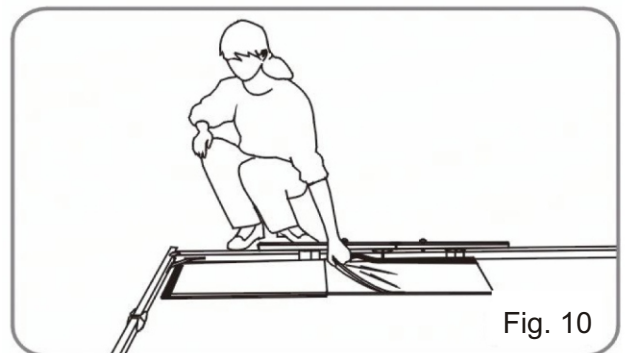

Fig. 10
4. Take the screen fabric out of the bag and put it inside the frame next to the corner. Unfold as shown in the diagram. (Fig. 10 + 11).